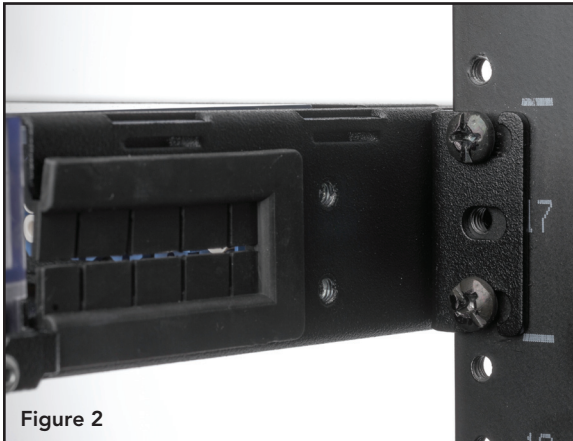

Figure 2
- 6.2 Mount the fiber enclosure to the equipment rack or cabinet at the desired height. Using the (4) 12-24 1/2" screws provided, (2) on each side, secure the enclosure. See Figure 2.